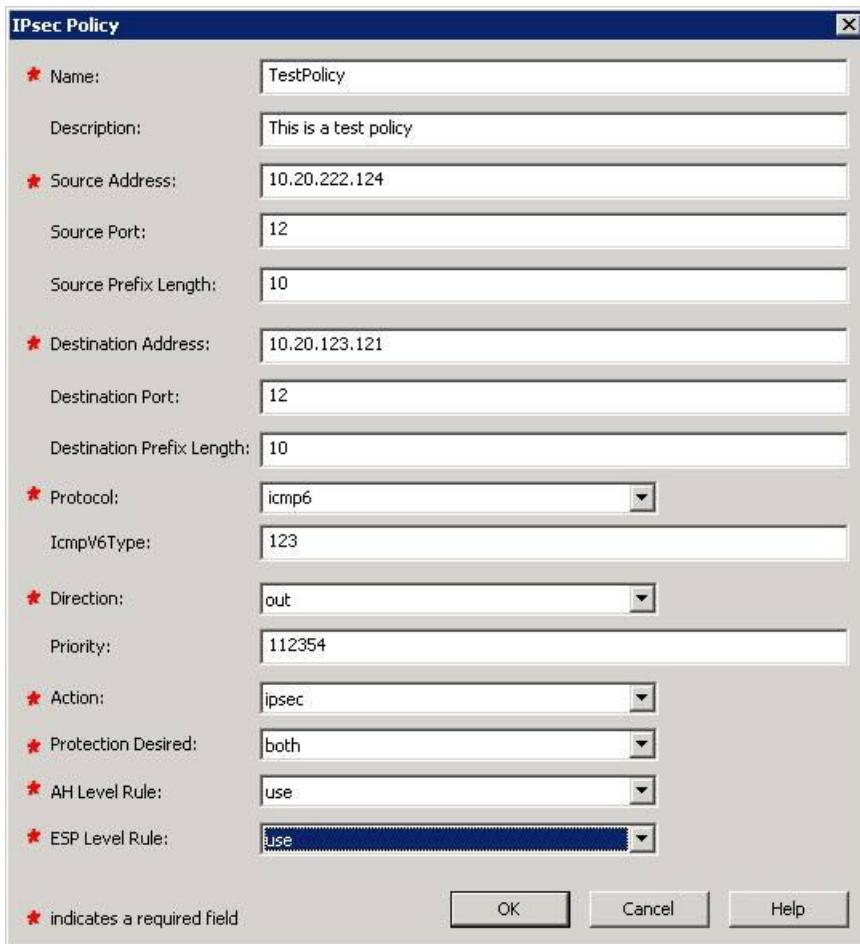

Figure 42 IPsec Policy dialog box
The IPsec Policy dialog box opens (Figure 42). You must complete all fields prefaced by a red asterisk.
The IPsec Policy dialog box opens (Figure 42 on page 70).
4. To modify the copy, select it, and then click **Edit** to open the IPsec Policy dialog box (Figure 42 on page 70).